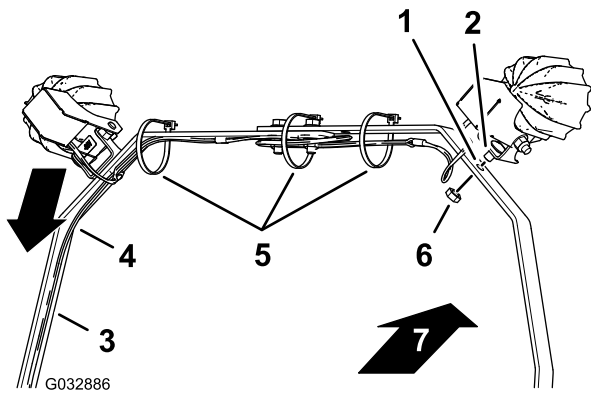

Figure 9
1. Align the light fixtures with the lenses of the lights toward the front of the machine (Figure 9).
2. Align the harness along the left light-bar strap as shown in Figure 9.
3. Align the short carriage bolt that you assembled to the mount bracket for the LED light with the hole in the light-bar strap (Figure 9).
4. Assemble the LED light and short carriage bolt to the light-bar strap with a nut (Figure 9).
7. Secure the wire harness to the light-bar straps with cable ties as shown in Figure 9.